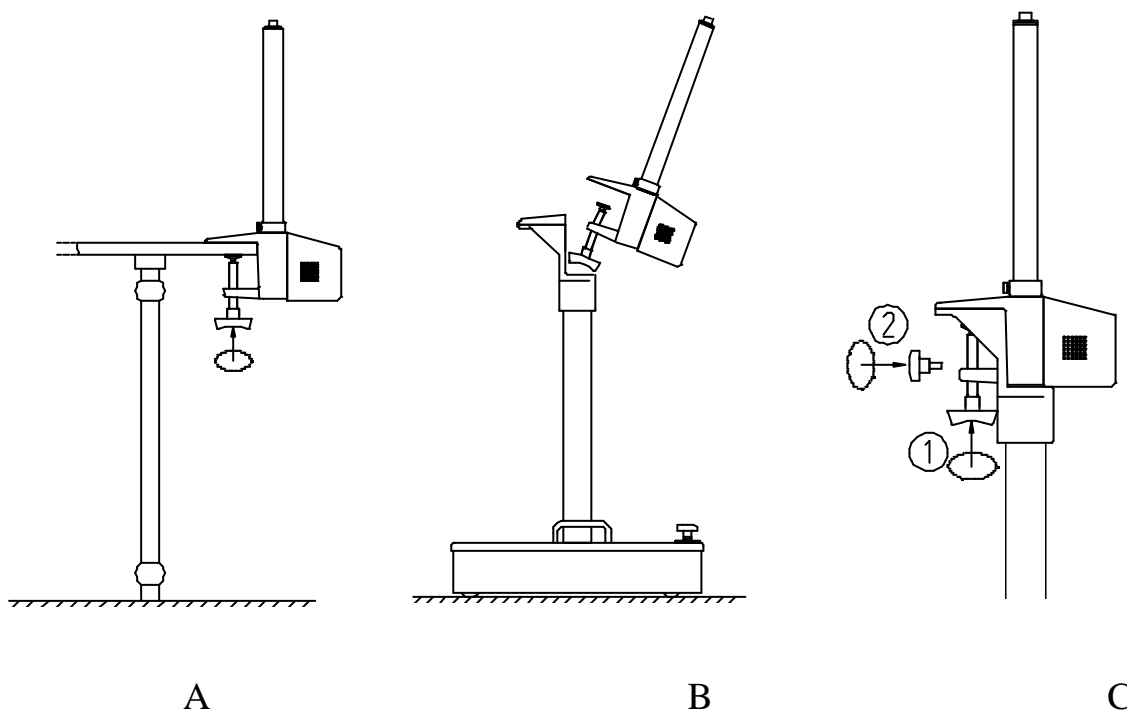

Figure 3 Attaching the clamp to a mounting surface
2. Fix the clamp to the operating table about 40 cm from the head of the table. The clamp may be fixed on either side of the table. Make sure that the clamp is pressed firmly against the side of the table before tightening. Refer to figure 3 (A).
- M** The clamp may also be attached to the floor stand. When attaching to the floor stand, first remove the two knobs from the clamp then tilt the clamp backwards slightly to allow it to fit through the hole in the clamp mount. Refer to figure 3 (B).
- M** The floor stand is clamped vertically to the main clamp assembly at one point and at two points horizontally. First tighten the vertical clamp firmly then use the two knobs provided to fix the clamp horizontally to the clamp mount. Refer to figure 3 (C).